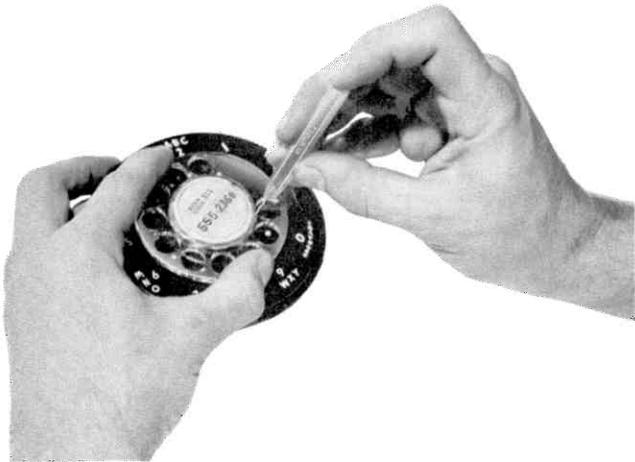

Fig. 16 — Removing Plastic Fingerwheel
- (1) Rotate fingerwheel in clockwise direction as far as possible.
- (2) Insert KS-16750, List 2 releaser into small hole located in edge of raised center of fingerwheel, as shown in Fig. 16 and push down to disengage the fingerwheel clamp spring. Continue to rotate the fingerwheel in a clockwise direction.
- (3) When clamp spring releases, remove fingerwheel and dial will return to normal.
(b) To remove number plate on a dial with a plastic fingerwheel, follow the sequence in Fig. 16, 18, 19, and 20.